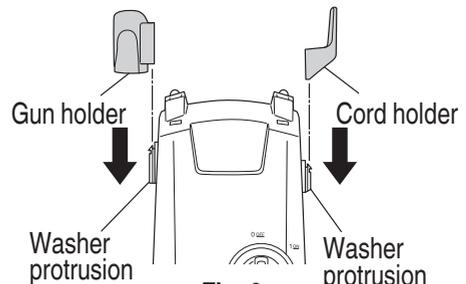

Fig. 2
6. Attaching the holder (Fig. 2)